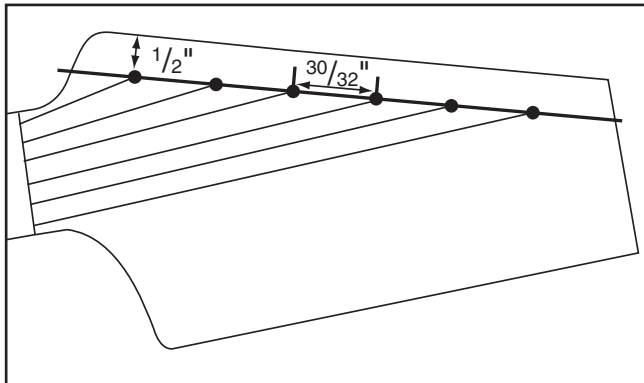

Figure 6. String paths and peghole locations.
3. Draw the path of the strings onto the test paper to ensure that the strings do not interfere with each other as shown in **Figure 6**.